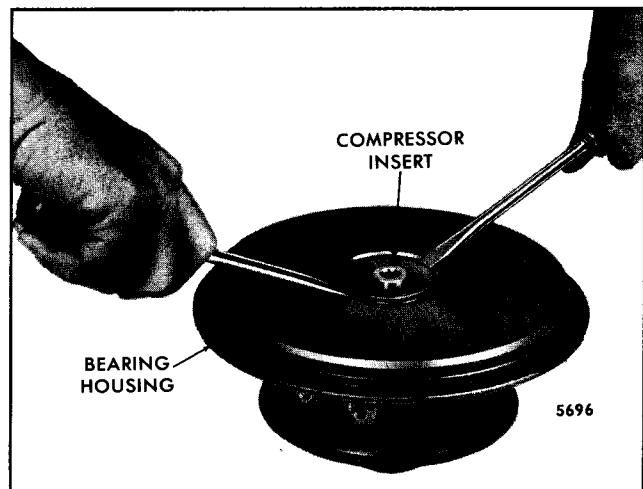

Fig. 8 - Removing Compressor Insert from Bearing Housing
8. Remove the compressor insert from the bearing housing by prying evenly and gently with screw drivers placed under the lip of the insert (Fig. 8).